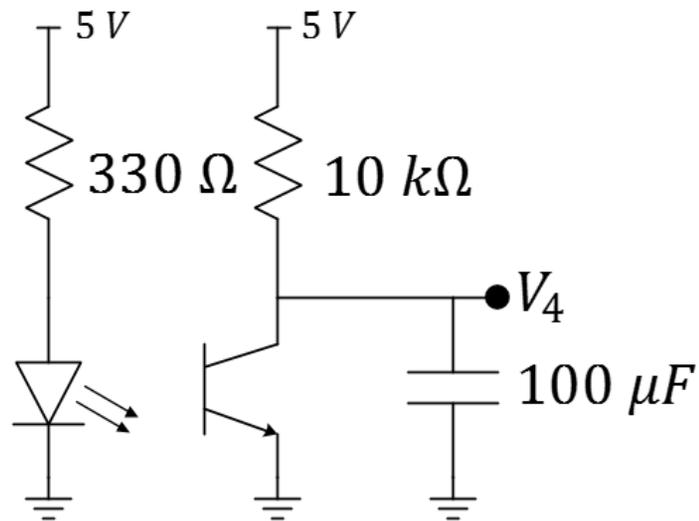

Figure 4: An infrared emitter/detector-type sensor with filtering (the capacitor).
- ✓ Build the infrared sensor shown in Figure 4 and replace the earlier voltage-divider sensor. The sensors should be facing each other.